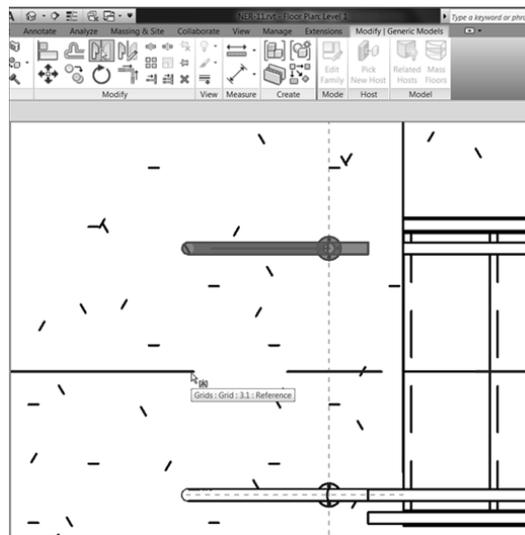

FIGURE 10.21: Mirroring the family
2. Click the Mirror – Pick Axis button, as shown in Figure 10.21.